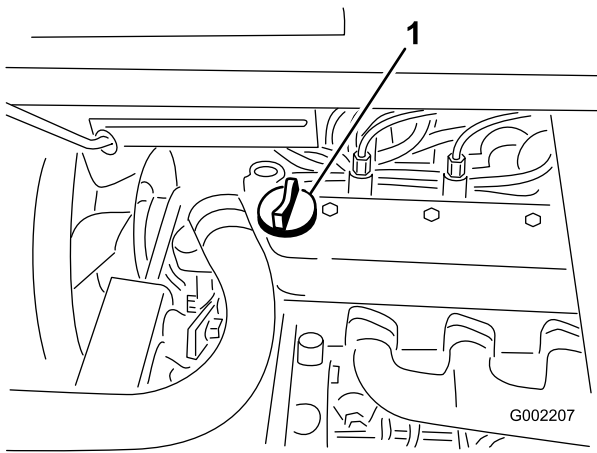

Figure 17
3. If the oil level is low, remove the filler cap from the valve cover (Figure 17) and pour oil into the opening until the oil level is up to the Full mark on the dipstick; refer to Servicing Engine Oil, Engine Maintenance, page 35, for the proper oil type and viscosity. Add the oil slowly and check the level often during this process. Do not overfill.